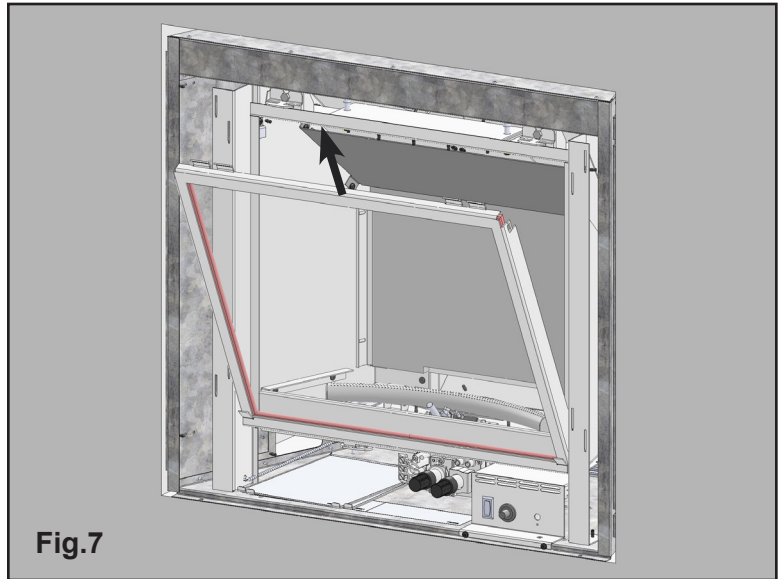

Fig.7
- Carefully slide the door glass assembly up and out of the unit.(**Fig.7**)